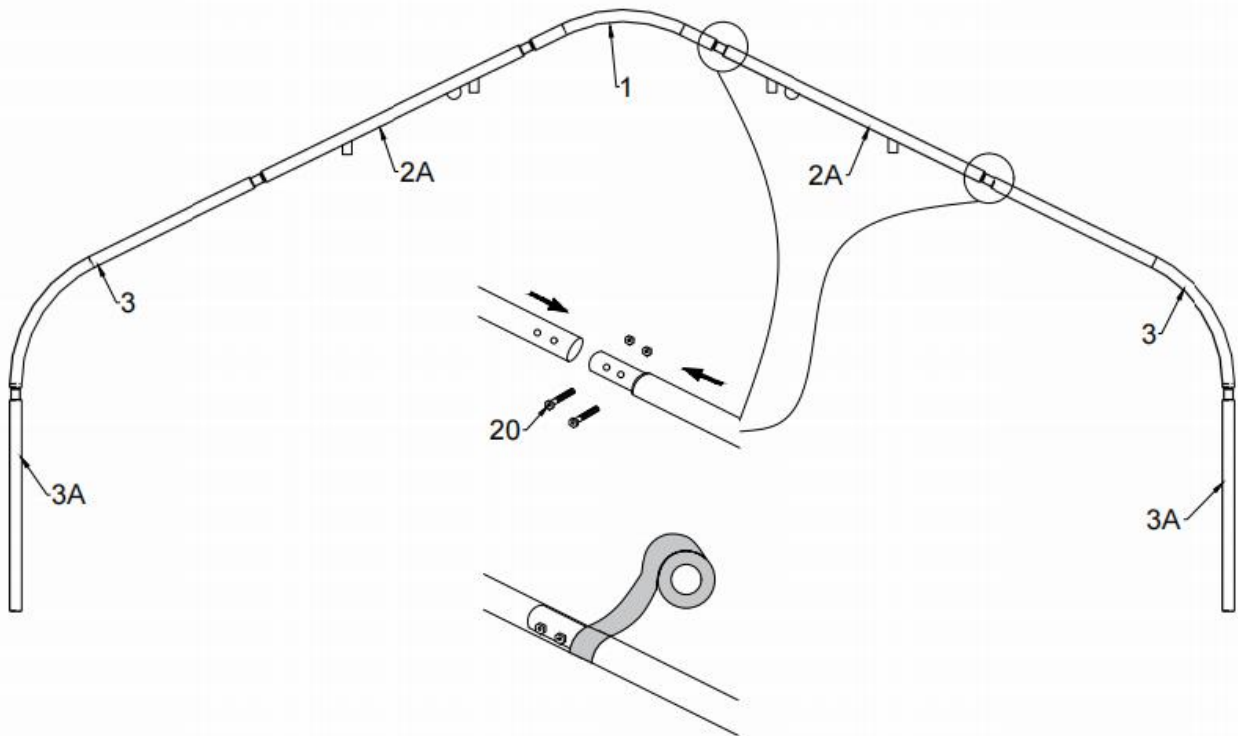

Figure 3
1. As Figure 3 shown to find one Roof Bent Tube (No.1), two Middle bent tube for front door (No. 2A), two Lower Bent Tube (No. 3) ,two Bottom standing legs(No. 3A) and assemble every group arch with Bolt Carriage M10x90 (No.20). DO NOT install the screw on the top of the truss where the fabric will rest.